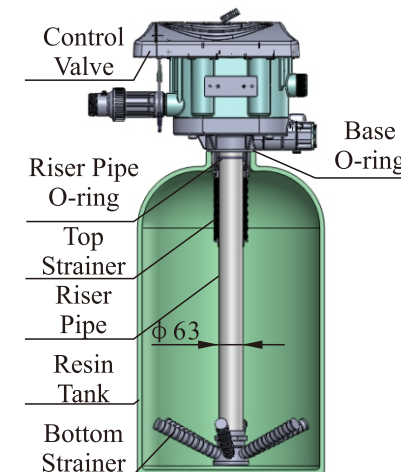

Figure 1-1
- ①The filter or softener should be located close to drain.
- ②Ensure the unit is installed in enough space for operating and maintenance.
- ③Brine tank need to be close to softener.
- ④The unit should be kept away from the heater, and not be exposed to outdoor. Sunshine or rain will cause the system damage.
- ⑤Please avoid installing the system in one acid/alkaline, magnetic or strong vibration circumstance, because above factors will cause the system disorder.
- ⑥Do not install the filter or softener, drain pipeline in circumstance which temperature may drop below 5℃, or above 45℃.
- ⑦ Install the system in the place where with the minimum loss in case of water leaking.
①Install control valve
a. As the Figure 1-1 shows, select the riser pipe with 63mm OD, glue the riser pipe to the bottom strainer and put it into the resin tank, cut off the exceeding pipe out of tank top opening. Plug the riser pipe in case of resin entering.